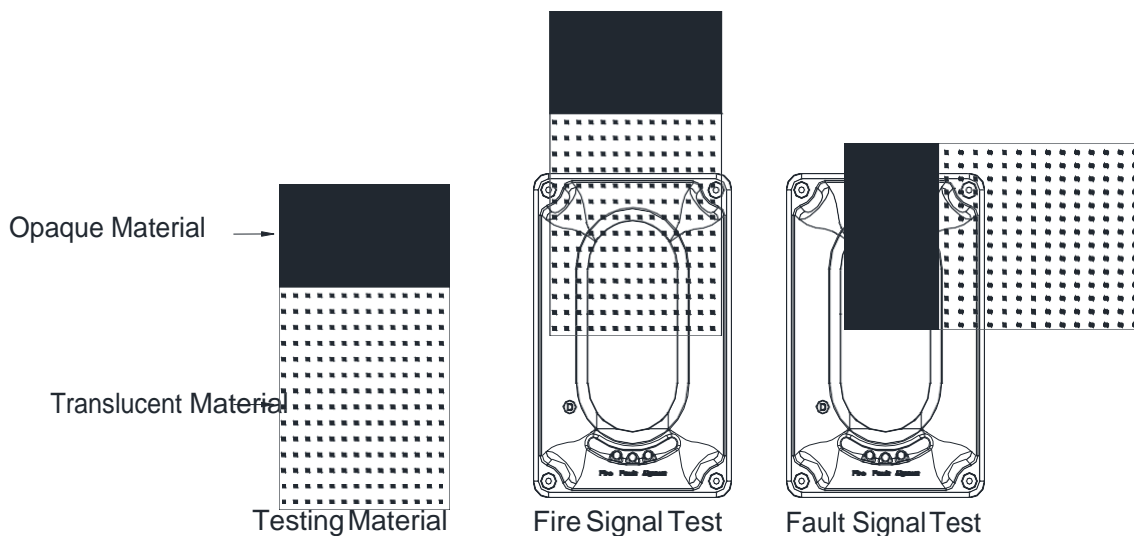

Figure 13: Testing Details
- a. Using supplied Opaque/Translucent materials, cover-on the half of the beam using the opaque portion of the material. Right after the Yellow LED [Fault] turn on, indicating the fault signal. [The fault alarm relay GZ1 and GZ2] will latch to normally close]. Refer to Figure 13.